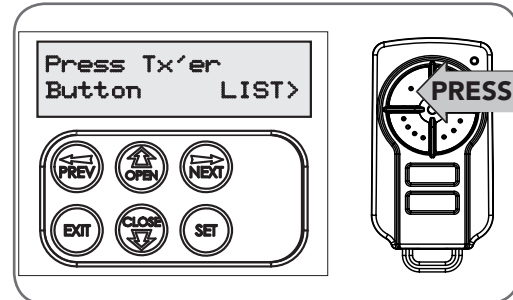

Fig 10.3
- b. Press the transmitter button you wish to use to operate the Gate Opener (e.g. button 1) (Fig. 10.3).